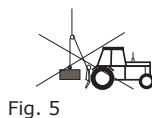

Fig. 5
- It is strictly prohibited to use the winch for any other application than mentioned in this manual. CAUTION: do not use the winch for hoisting applications! (Figure 5)